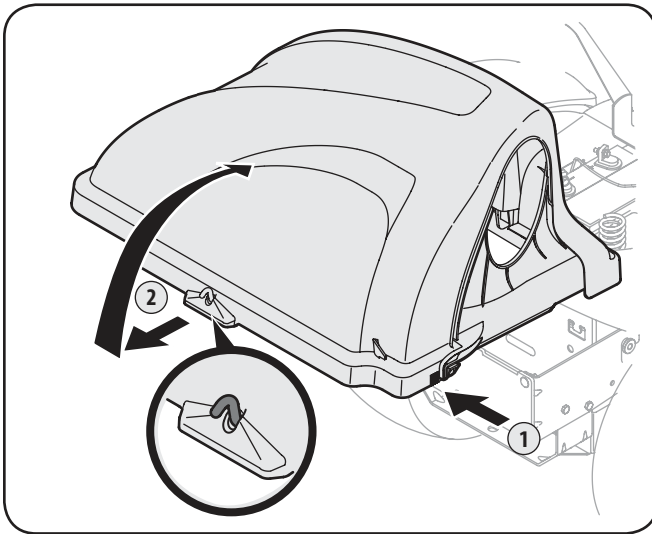

Figure 5-1
1. Open the grass catcher hood by pushing in on the rear, right-side tab with your right hand, as seen in 1 of Figure 5-1, and lifting the cover with your left hand in the center rear of the bagger cover, 2.